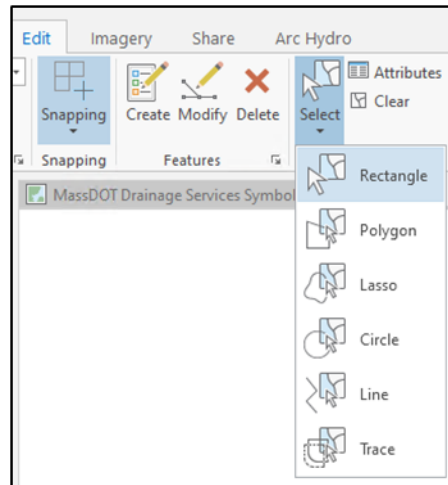

Figure 39
1. Select the feature by clicking Select in the Edit tab (Figure 39). There are several options for selecting a feature in ArcGIS Pro.